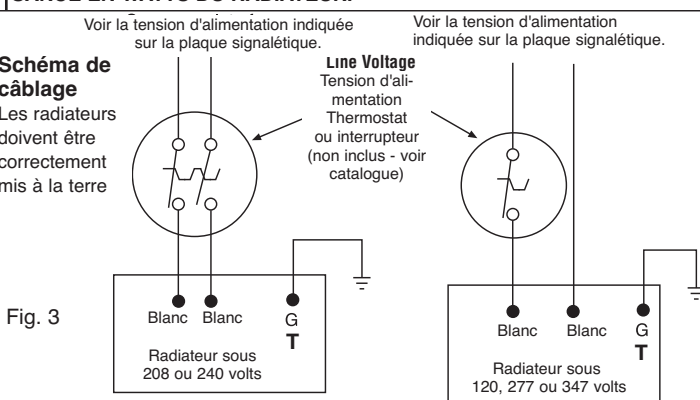

Fig. 3
3. Wire heaters as shown in Fig. 3.